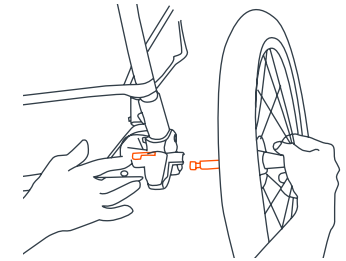

Fig. 8
- 8) • Lean the stroller forward to rest on the front wheel. To attach the rear wheels, push each wheel's axle into the plastic corner fitting as shown in (Fig. 8). Depress the metal lever on the inside of the corner fitting as you push the axle into corner fitting. When the wheel will not go on any farther, release the lever. Check that the wheel has locked into the corner fitting by pulling on the wheel. If not locked, lift upward on the lever, push the wheel on farther and release lever.